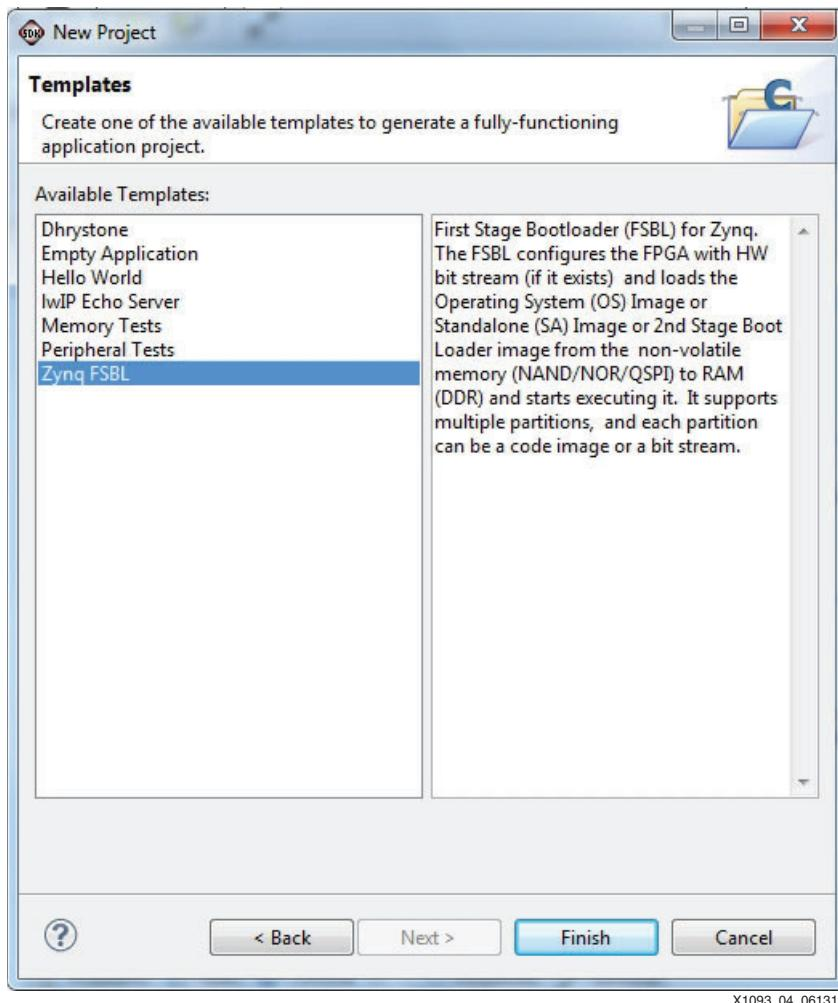

Figure 4: Select FSBL Template
4. In Available Templates select **Zynq FSBL**, as shown in Figure 4.